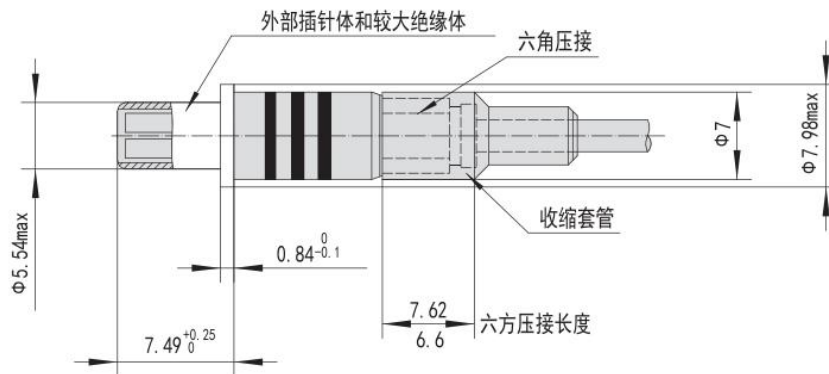

Figure 3.6
⑤ As shown in Figure 3.6, proceed as follows: